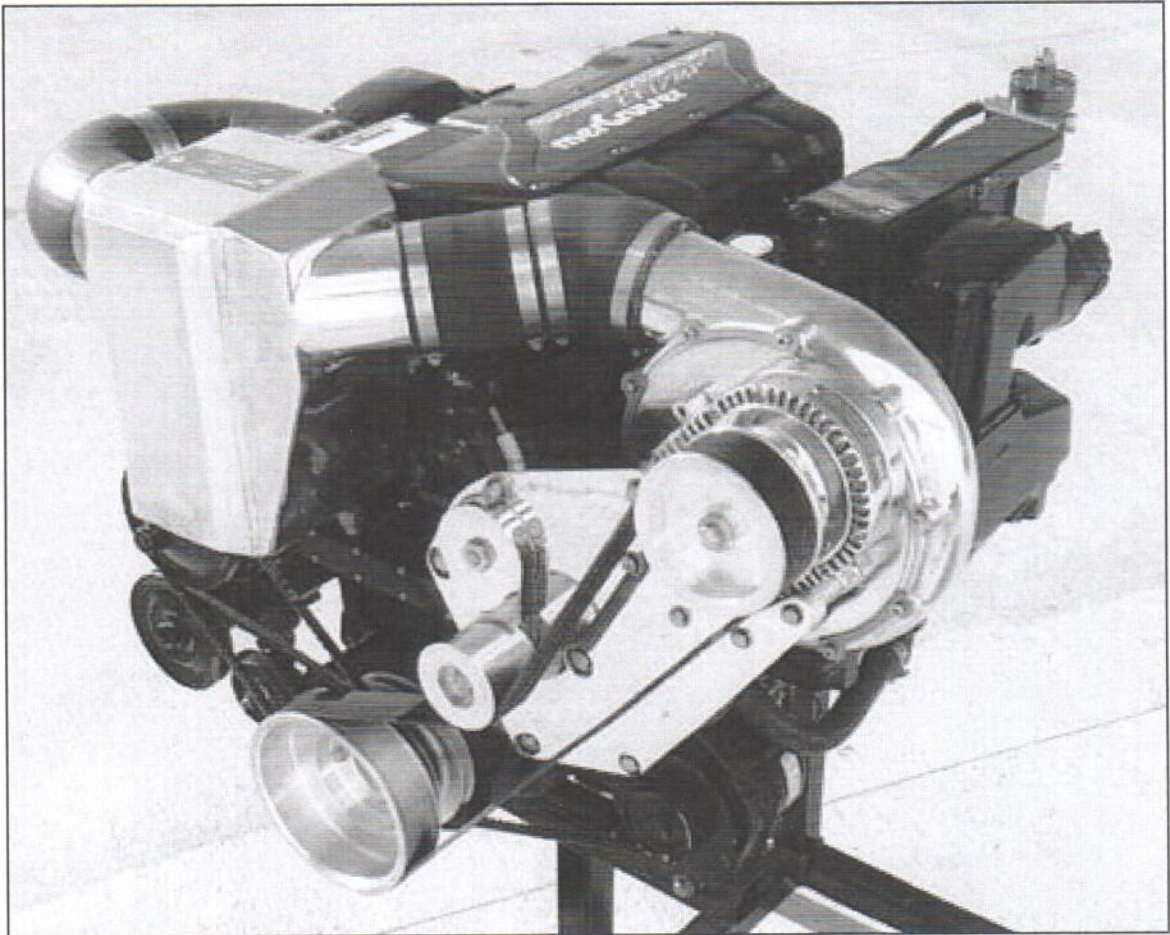

FIGURE G1
4. Remove the stock air filter from the throttle body. Remove the four studs which hold the filter and throttle body to the manifold. Using the supplied 5/16" x 4 1/2" bolts, bolt the supplied ATI throttle-body baseplate and gasket, together with the throttle body, to the manifold. Attach the throttle-body housing to the base plate with supplied 10-24 x 1-1/2" screws (Refer to Fig. G1).
1. Carefully review the entire installation (figure G1). Check oil and fuel lines near moving parts and the exhaust system to ensure that these lines are safe, secure and not twisted or kinked. All wires and hoses should be firmly secured with clamps or wire ties. Also, ensure that the air filter or inlet screen is installed.